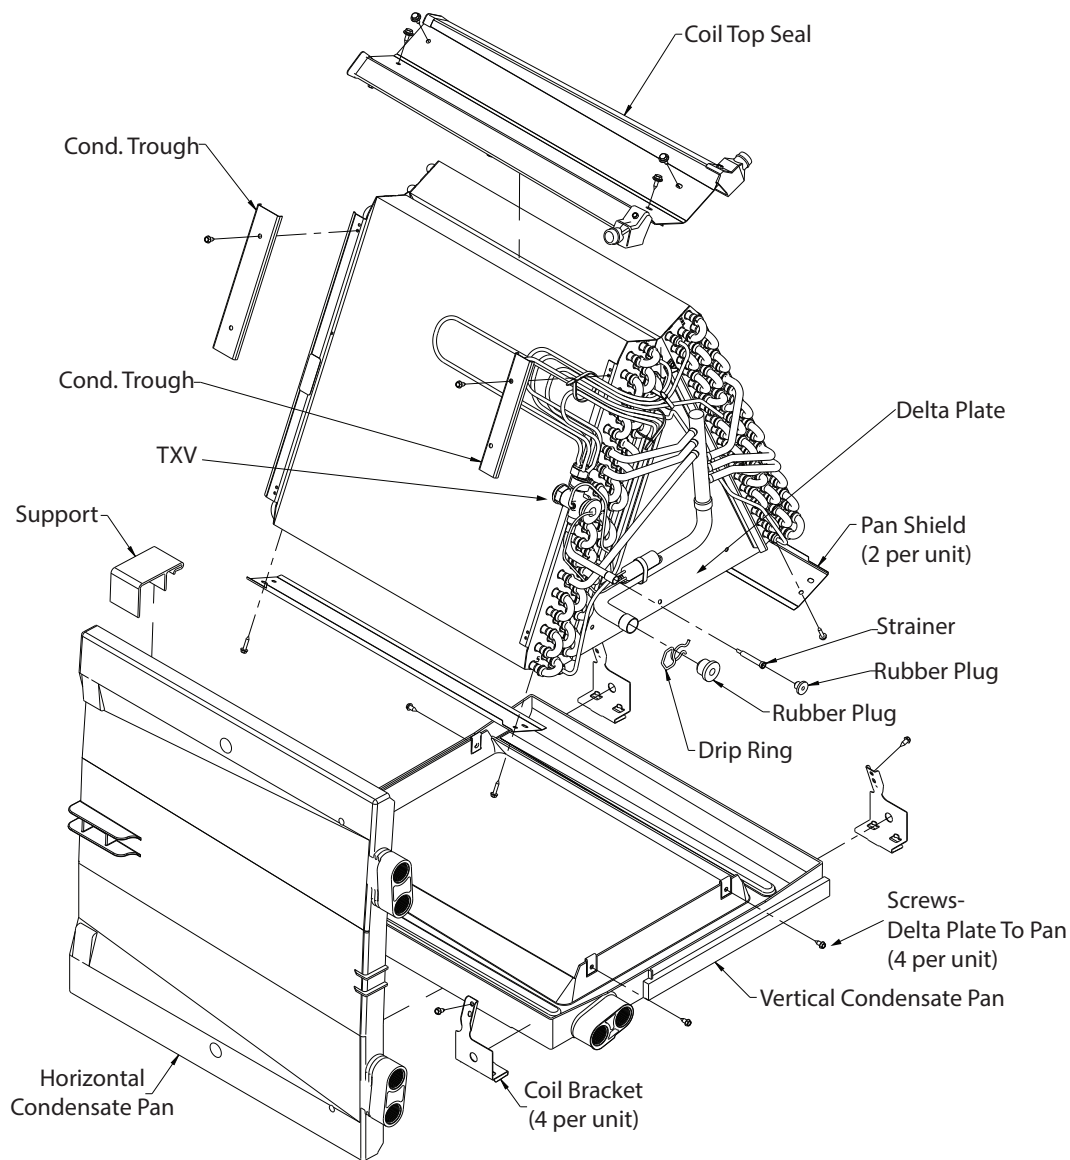

Fig. 28 - A-Coil Component Location
8. Remove horizontal condensate drain pan from coil (if present) and condensate pan assembly. (See Fig. 28.)
9. Remove 4 coil brackets if present. (See Fig. 28.)
10. Remove screws at delta plates and remove coil from vertical condensate drain pan. (See Fig. 28.)
11. **Horizontal Applications Only**—Remove drain connections and J-shaped tube from original coil, and install them in same position on new coil. (See Fig. 28.)
12. Place coil assembly in plastic condensate pan and secure with 4 screws through delta plate. (See Fig. 28.)
13. **Horizontal and Upflow Applications Only**—Attach 4 coil brackets to coil and pan assembly. (See Fig. 28.)
17. **Horizontal Applications Only**—Reinstall horizontal pan clip and secure with 1 screw. (See Fig. 28.)